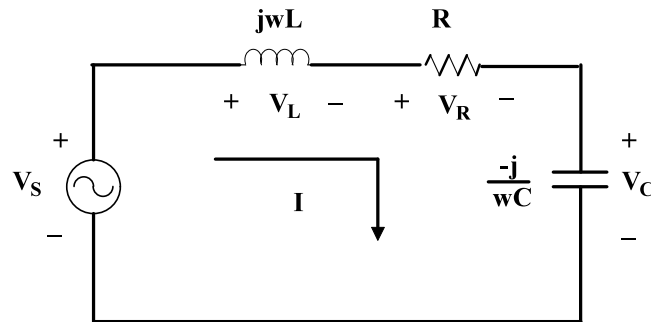

Figure 5.11 Series *RLC* circuit.
Consider the series *RLC* circuit shown in Figure 5.11
- For the circuit of Figure 5.11 calculate the resonant frequency. Use $L = 100\text{mH}$, $R = 90\ \Omega$ and $C = 0.22\ \mu\text{F}$